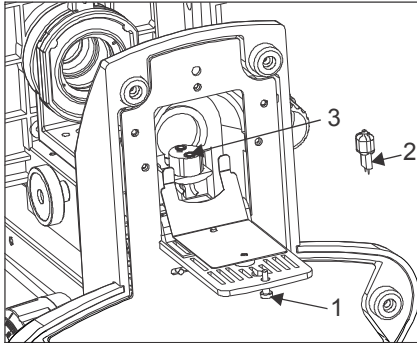

Fig. 13
1. Pull the lock knob (1) on the bottom to open lamp housing door (figure. 13).
2. Hold the halogen bulb (2) without taking it out of the polyethylene bag so as not to taint the bulb with fingerprints and push the bulb into the pin holes on the socket (3). After attaching, remove the polyethylene bag.